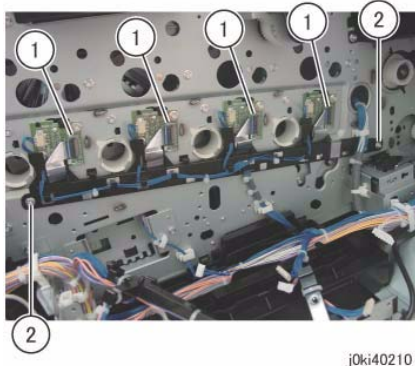

Figure 7 Remove the screws
13. Remove the screws that secure the LPH Cable Assembly. (Figure 7)